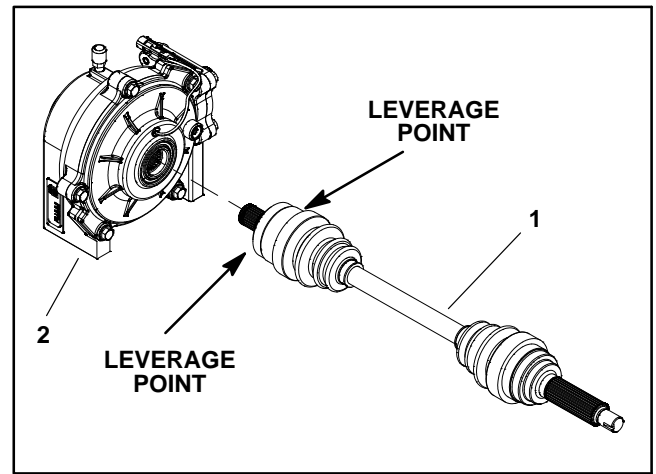

Figure 2
6. Apply even pressure to two (2) small pry bars (180° apart) to leverage the CV axle out of the differential (Fig. 2).